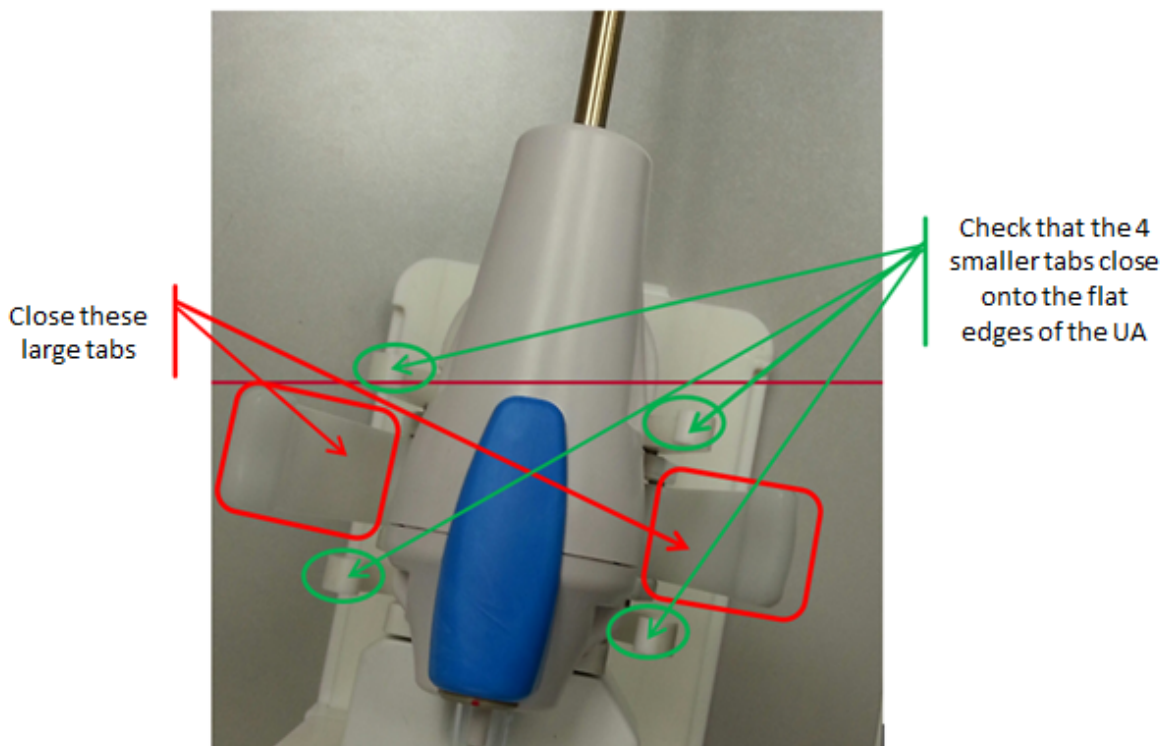

Figure 24: UA resting on PS with UA handle sitting in UA gripper
4. **MRI Technologist:** Capture the UA handle in the UA gripper of the PS (*Figure 24*). Ensure that the UA is not being 'forced' into position. If so, release the UA from the UA gripper and adjust the PS axes to achieve better alignment with the UA. Ensure the up-and-down and tilt-release knobs on the PS are locked before securing the UA in the gripper of the PS.